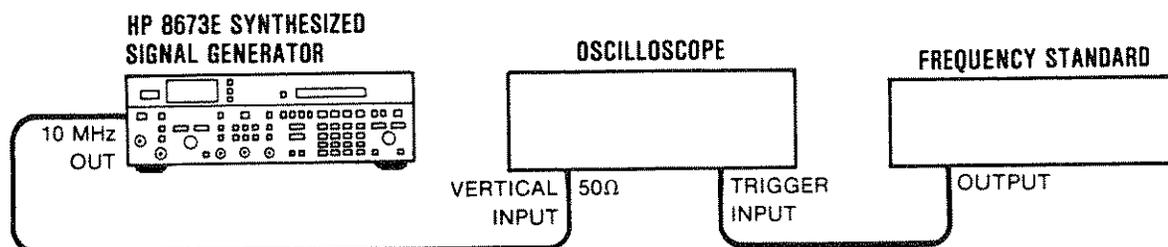

Figure 5-4. 10 MHz Reference Oscillator Adjustment Test Setup
2. Connect the equipment as shown in Figure 5-4. Set vertical input of oscilloscope for 50Ω input impedance.